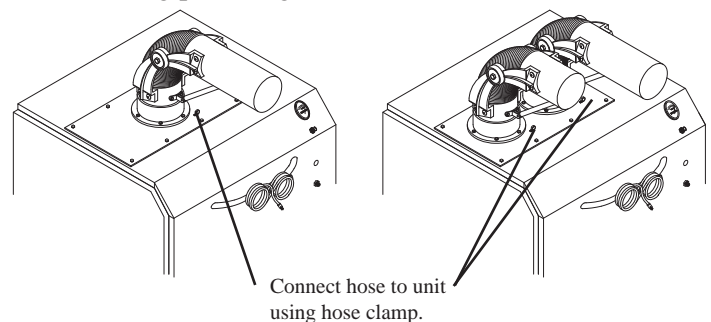

Fig. 1B
5. Insert the lamp plug on the arm into the receptacle located directly behind the base of the arm on the MC1500. Secure the arm cable in clamp provided on mounting plate (Fig. 1B).